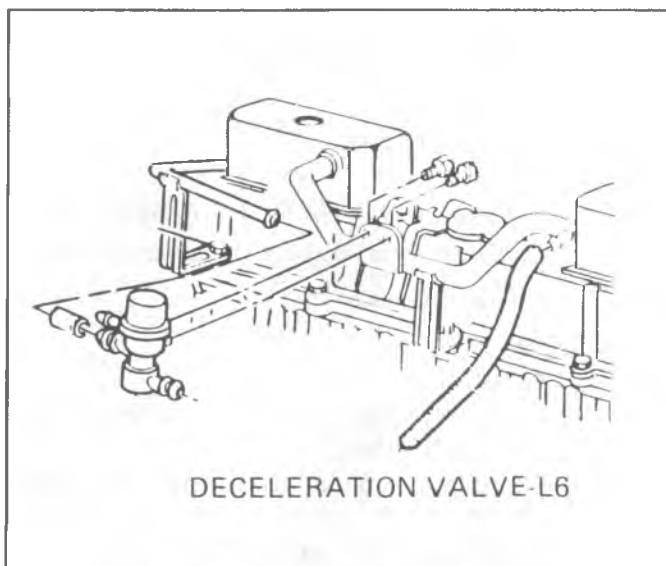

Fig. 6E-42--Deceleration Valve - L6
1. Inspect system to be sure all hoses and tubes are connected (Fig. 6E-43 and 44). Check for kinked, plugged or deteriorated hoses.